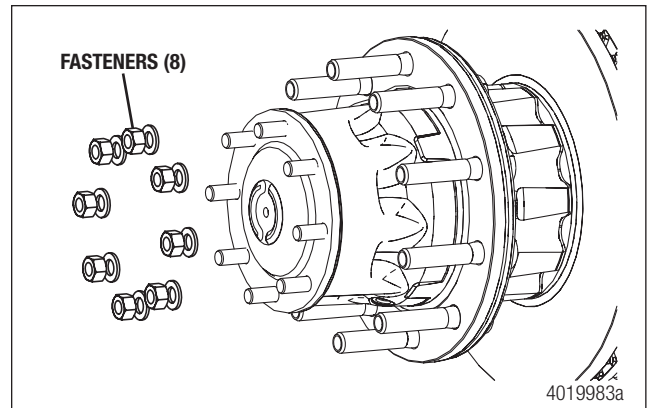

Figure 13
f. If the axle shaft utilizes lock nuts, install eight new lock nuts and washers. If the axle shaft utilizes tapered dowels and non-locking nuts, apply Loctite® 242 threadlocker to the nuts. Install the eight nuts and washers. Tighten fasteners to the torque specified in following table. Figure 13.